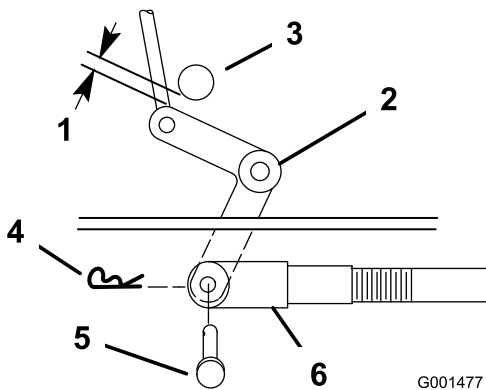
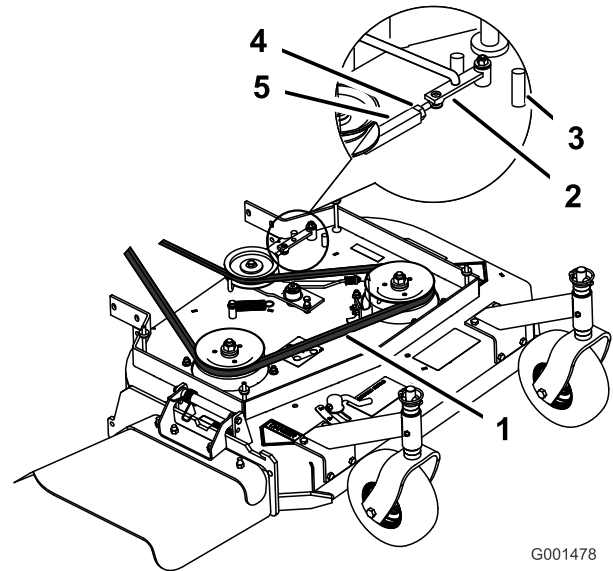
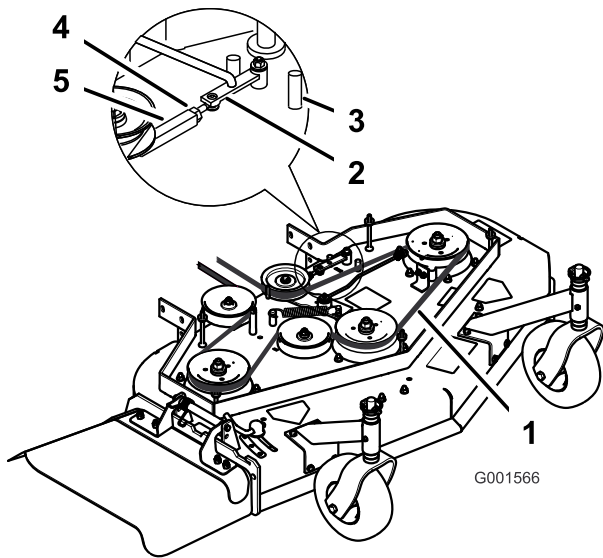

Figure 48
Figure 49
Figure 50
9. Check the clearance between the bell crank and the transmission output shaft (Figure 48).
11. Rotate the clevis clockwise on the rod to increase the clearance; rotate it counterclockwise to decrease it (Figure 48).
Note: If the assist arm does not contact the front stop on the mower deck (Figure 49 or Figure 50), adjust the clevis to bring the bell crank closer to the transmission output shaft (Figure 48).